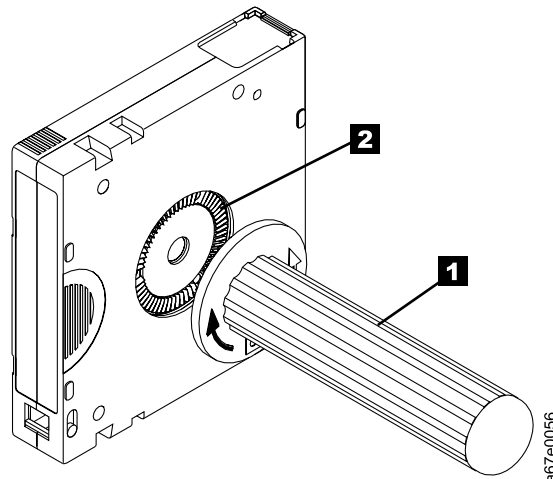

Figure 15. Rewinding the tape into the cartridge
5. To rewind the tape, insert the cartridge manual rewind tool ( **1** in Figure 15) into the cartridge's hub **2** and turn it clockwise until the tape becomes taut.